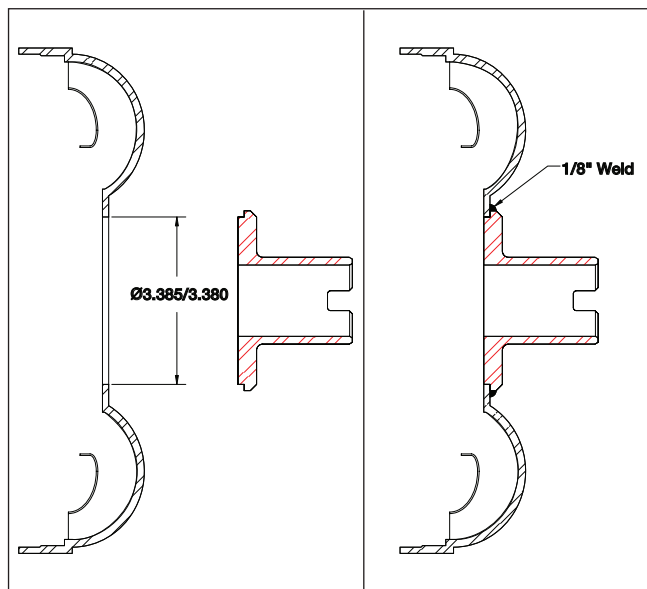

Figure 1
**IMPELLER ASSEMBLY INSTRUCTIONS (SEE FIGURE 1)**